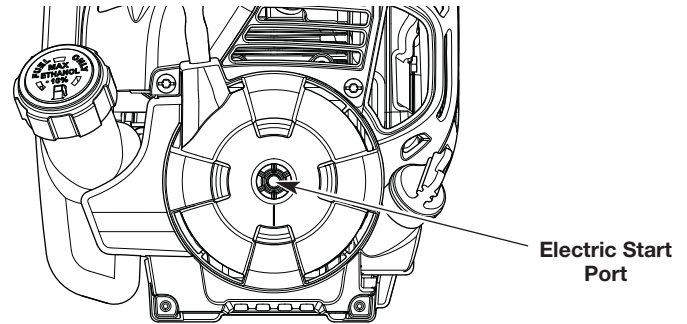

Fig. 12
5. Insert the electric start accessory into the electric start port (Fig. 12). Refer to the *Operation* section of the electric start accessory operator's manual.